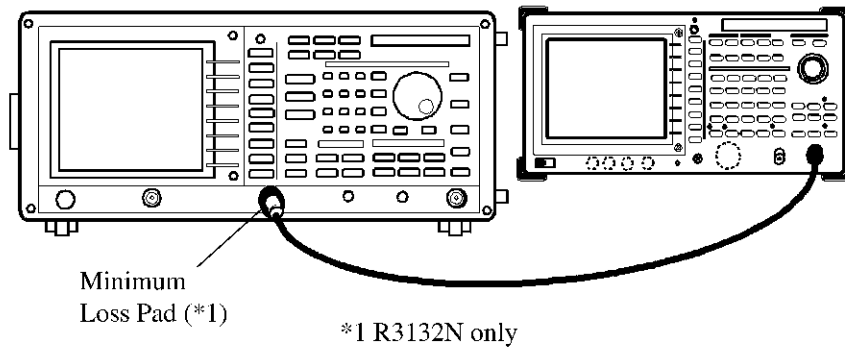

Figure 5-25 Setup of Harmonic Distortion Test
1. Connect the R3132 series and spectrum analyzer as shown in Figure 5-25.